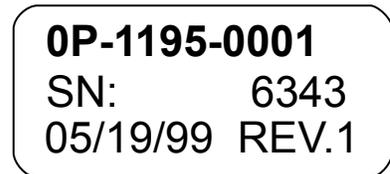

**Figure 1: Drawing Label**
**Figure 1** illustrates a Daktronics drawing label. This manual refers to drawings by listing the last set of digits. In the example, the drawing would be referred to as **DWG-3911146**.